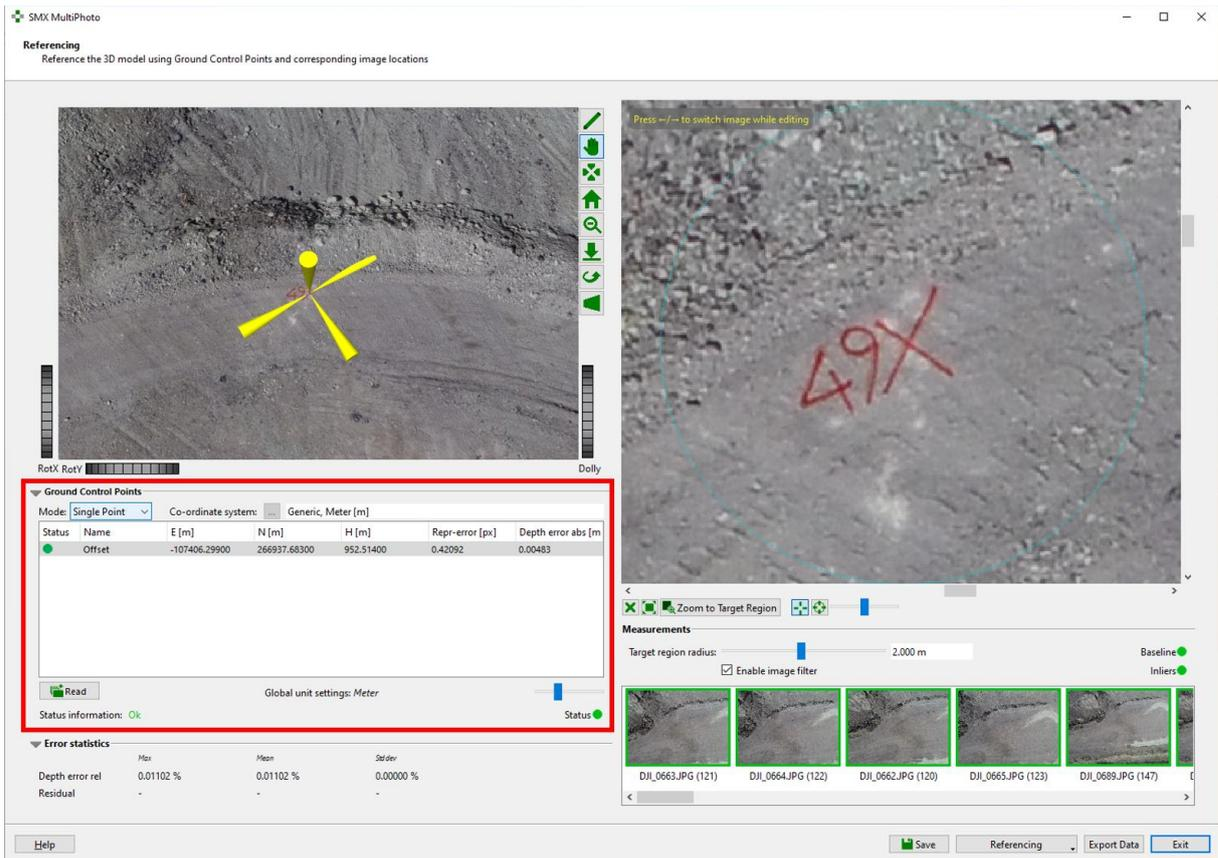

Figure 27: Single Point mode
6. Check the *Status Information* (green status signals) and enable referencing by clicking the “*Save*”  button. See Figure 27.